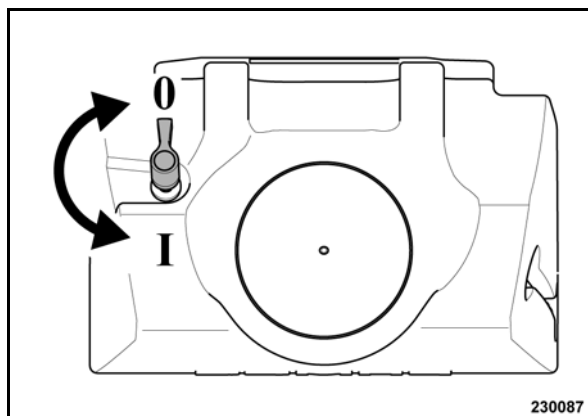

Fig. 28
- Open (I) or close (0) the rotary button (Fig. 28) as required (continuously variable adjustment).